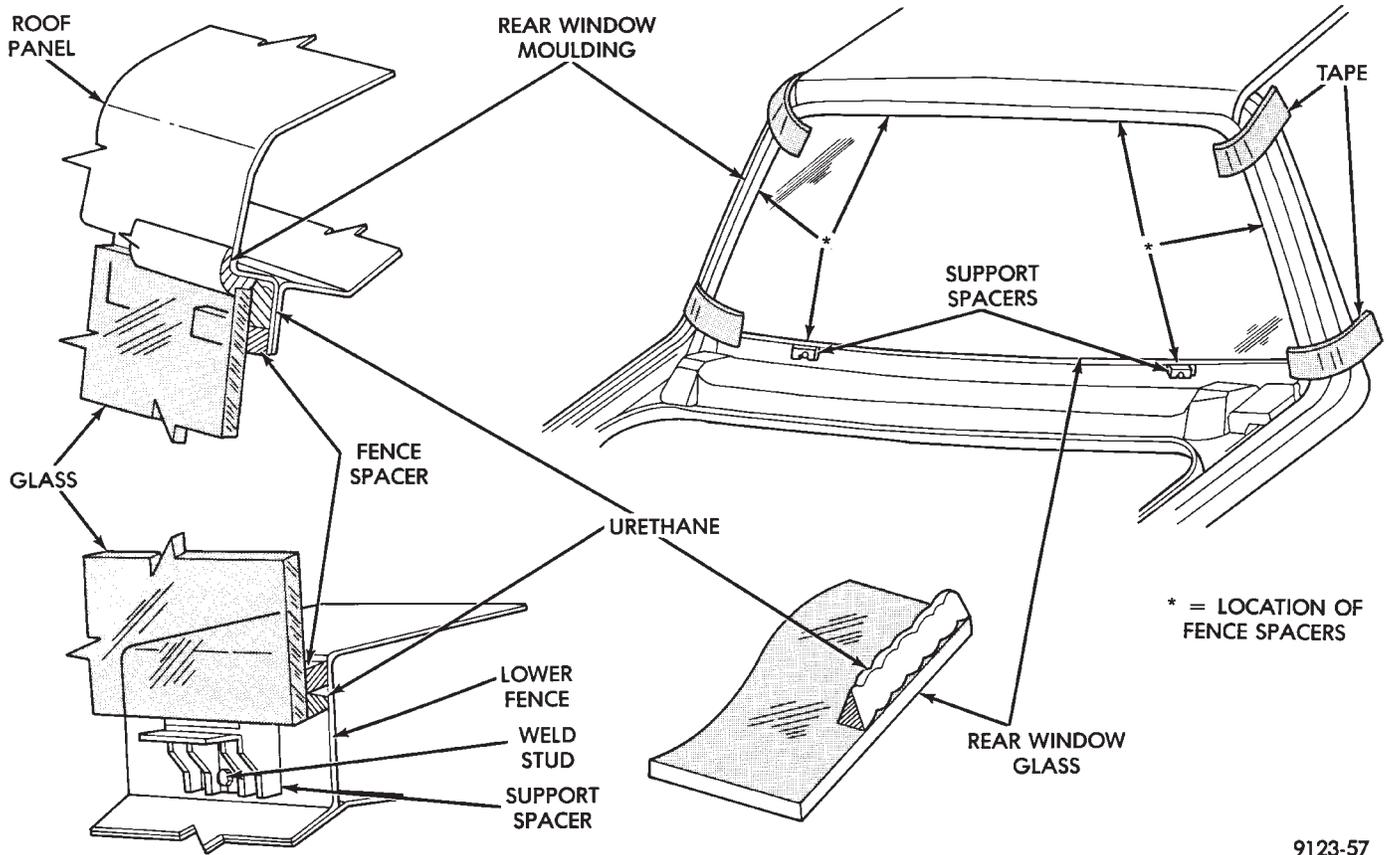

Fig. 29 Rear Window Glass—Typical
REMOVAL (FIG. 29)
- (1) Prepare the work area, window fence, and glass the same way as described in the Windshield section of this group.
- (2) Place fence spacers at the locations shown (Fig. 29).
- (3) Apply a 10 mm (0.4 in.) bead of urethane around the perimeter of the glass.
- (4) Install the glass in the same manner described in the Windshield section of this group.
- (5) Install the rear window moulding in the gap between the glass and the roof panel.
- (6) Secure moulding and glass in position with suitable tape. Remove tape after urethane has cured.
- (7) Connect rear window defogger wiring. Install interior trim and rear deck filler panel.
- (8) After urethane has cured, water test rear window to verify repair. Verify rear window defogger operation, see Group 8N, Rear Window Defogger.